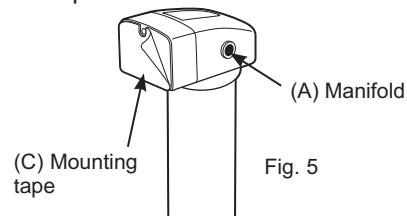

Fig. 5
B. OPTIONAL INSTALLATION (Mounting Using the Mounting Tape Provided [Fig. 5])